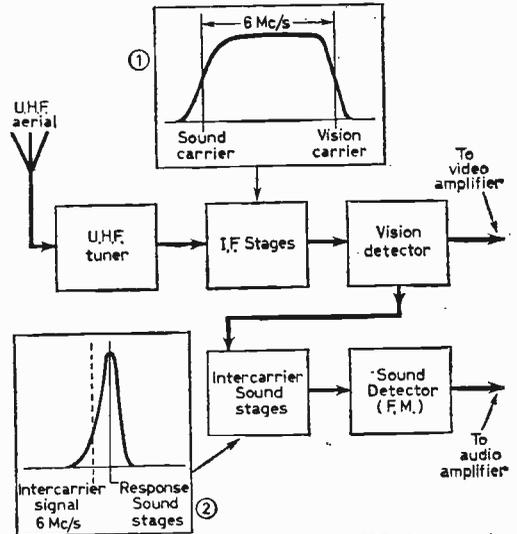

Fig. 4: Simple block diagram of a 625-line standard receiver, showing responses and signals.
On the 625-line standard, misalignment of the intercarrier sound channel can produce the symptom, but owing to the manner in which the circuits work it is generally referred to as *intercarrier buzz*. The corresponding block diagram (somewhat simplified) of the scheme is shown in Fig. 4. Here it will be seen that both the vision and the sound signals are purposely arranged to pass through the main i.f. stages and arrive together at the vision detector. This is possible because on this standard frequency-modulated sound is adopted, to which the vision detector is effectively insensitive. However, the detector does serve to intermodulate, so to speak, the sound and vision signals—modulating one upon the other—resulting in a new signal which has a frequency equal to the difference between the sound and vision signals. This difference is 6Mc/s , as shown in (1) on the diagram.